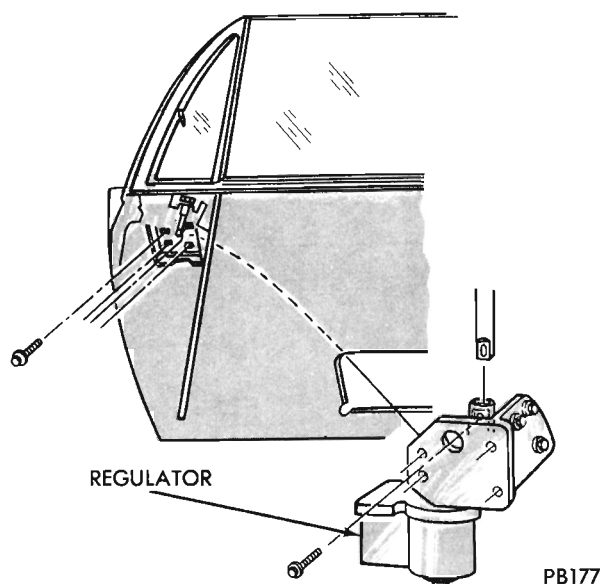

Fig. 18 - Vent Wing Regulator
- (1) With vent wing open, remove screws attaching regulator to door inner panel belt reinforcement (Fig. 18).
- (2) Remove shaft to coupling screw.
- (3) Move regulator off of vent wing pivot shaft.
- (4) Remove regulator through large access hole in door panel.